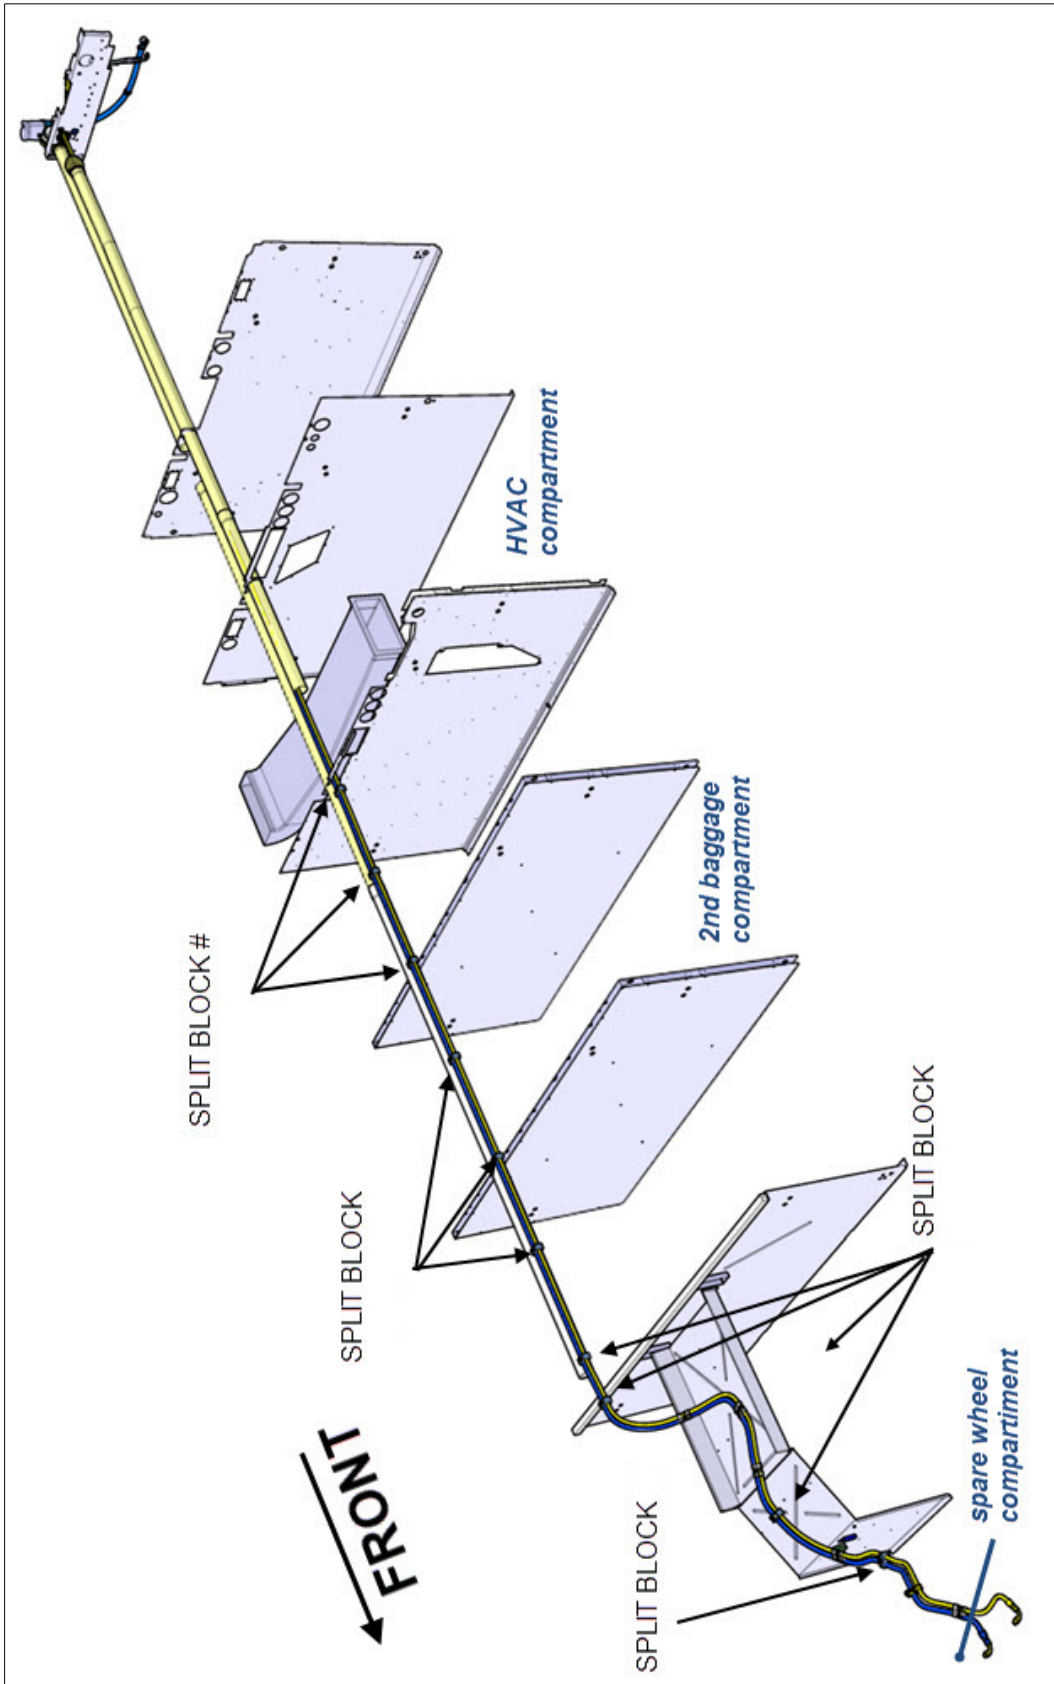

FIGURE 37 : POWER STEERING PUMP DISCHARGE HOSE (PRESSURE) H3-45 SHOWN
17. While following the discharge hose from the spare wheel compartment and proceeding one after the other, remove and discard all split blocks identified in figure 37. Save the hardware for reuse.
34. Install the new split blocks #504189 (figure 37 & 48).